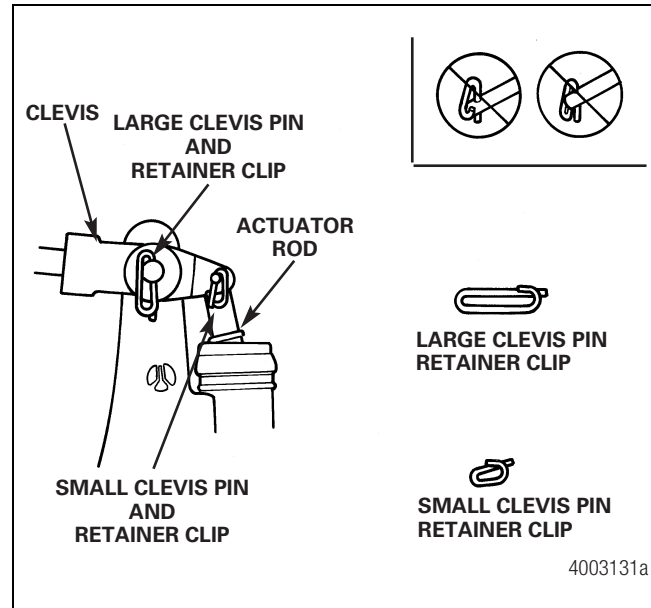

Figure 5.18
5. Apply anti-seize compound to the two clevis pins. Install the clevis pins through the clevis and the slack adjuster and install the cotter pins or clevis pin retainer clips to hold the clevis pins in place. Figure 5.18.